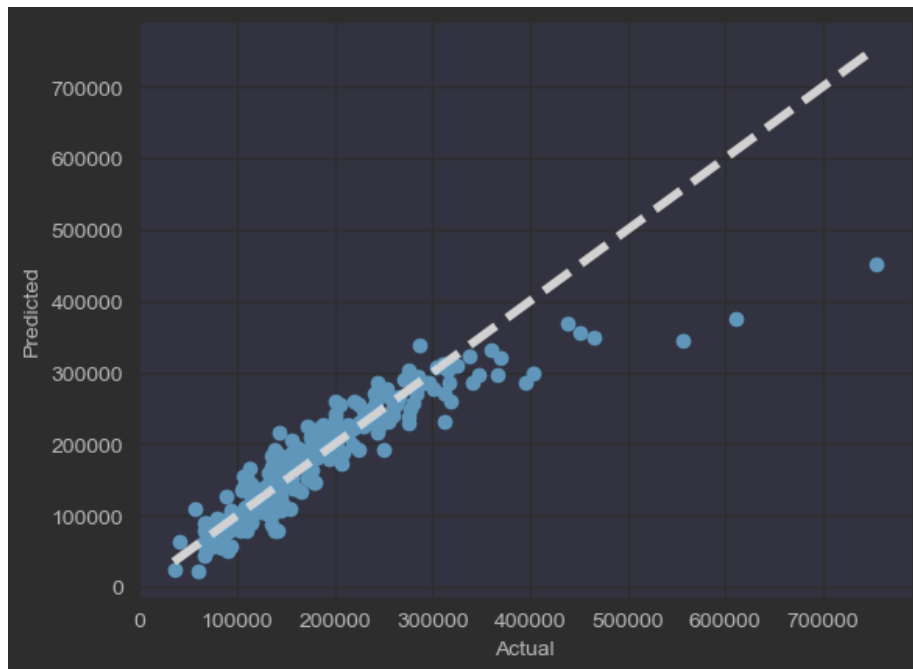

Figure.3
- **R-squared (R2 Score):** Represents the proportion of variance in the dependent variable that can be predicted from the independent variables, the results were approximately 0.81 and visualized in a scatterplot viewed in figure.3 below.